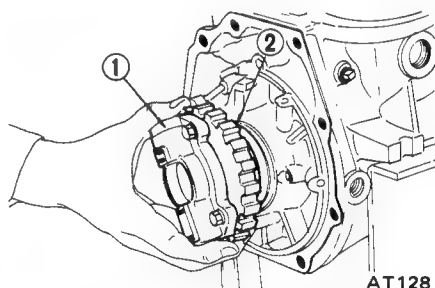

Fig. AT-62 Removing governor and oil distributor
16. Pull out output shaft; remove oil distributor ② together with governor valve ①. See Figure AT-62.